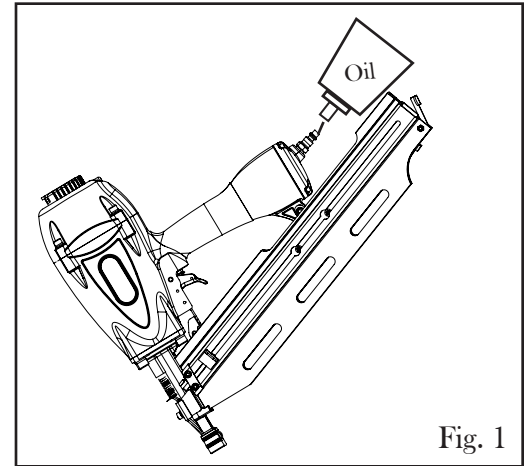

Fig. 1
LUBRICATING THE TOOL (Fig. 1)
2. Turn the tool so the air inlet is facing up. Place 4 to 5 drops of air tool lubrication oil into the air inlet (Fig. 1). **NOTE:** Excessive lubrication may damage the work surface. Wipe off any excess oil from the inlet.